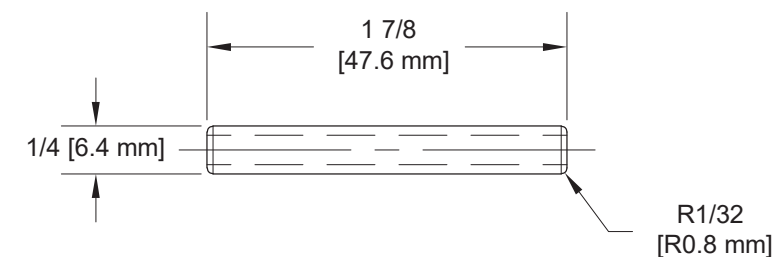

FIGURE 4: FLF-00016 ALUMINUM CONNECTOR TUBE
Step 8: Fabricate the FLF-00016 Aluminum Connector Tube from the piece of AT6-049X1/4 aluminum tube, see Figure 4.